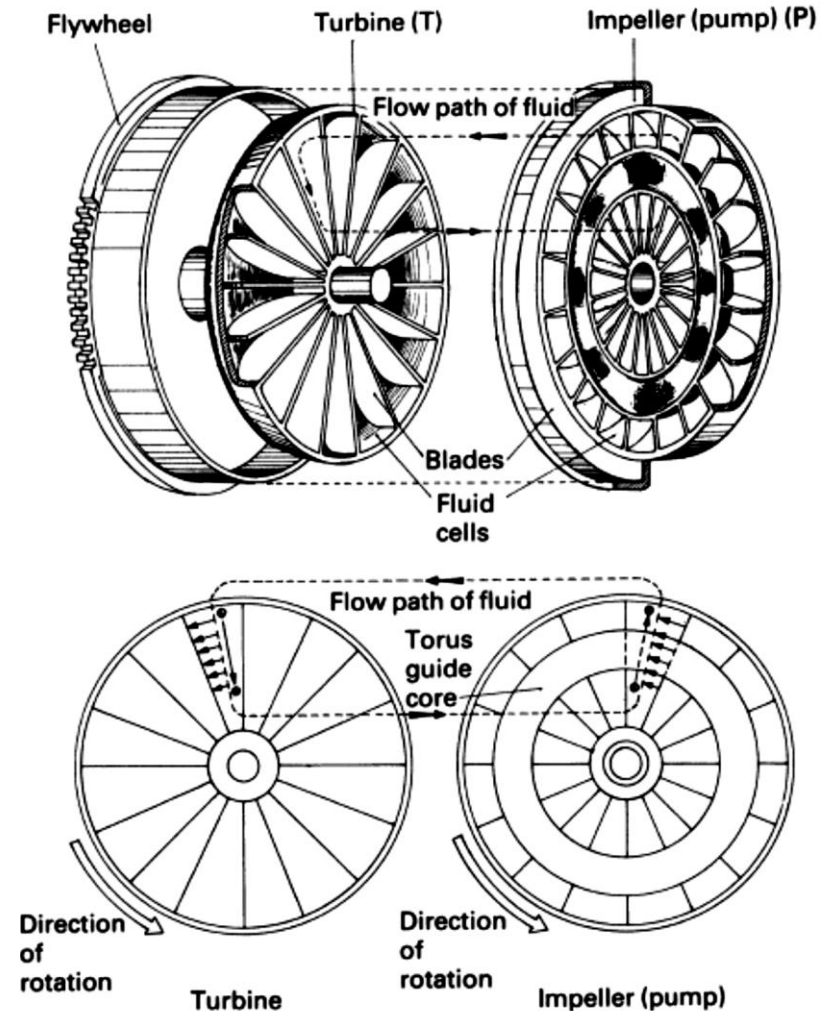

Fig. 1
- The hydrokinetic fluid coupling, also called as a fluid flywheel, uses two saucer-shaped discs, an input impeller (pump) and an output turbine (runner). Both impeller and turbine are cast with a number of flat radial vanes (blades) to direct the flow path of the fluid (Fig.1).